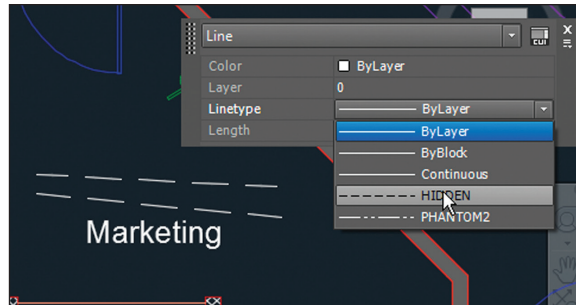

FIGURE 6.25 Changing a specific object property
5. Select the continuous line drawn in step 2 and change its Linetype property to *Hidden* (see Figure 6.25). Press `Esc` to deselect.